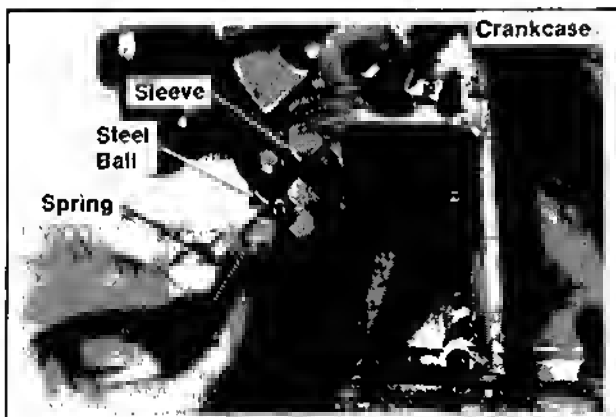

Figure 9-29. Removing Oil Pressure Relief Valve.
2. Remove the oil pressure relief valve spring, steel ball, and sleeve. Refer to Figure 9-29.